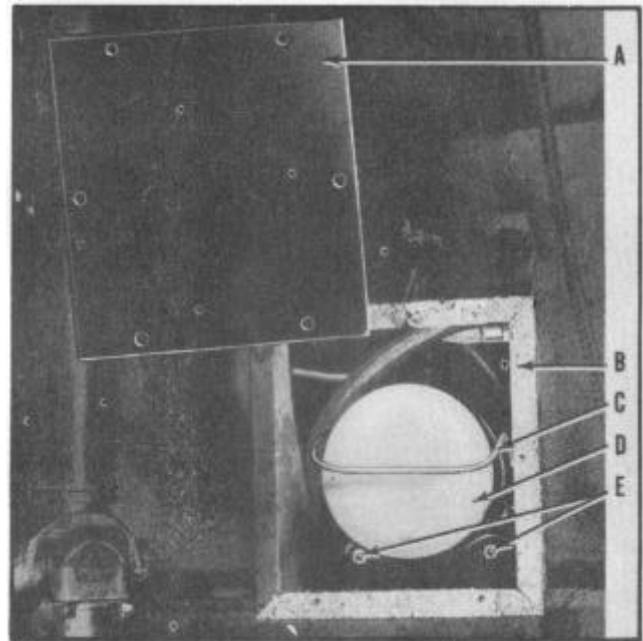

FIGURE 103
To remove hydraulic fluid, raise the car on a hoist and remove cover plate (A) from the bottom of the well containing the Motor and Hydraulic Pump Assembly. See Figure 103. Remove the reservoir bail (C) and the reservoir (D), and empty the contents into a clean dust-free container
1. After all fluid has been completely removed from the hydraulic system and while the car is still raised on the hoist, remove the two nuts (E), Figure 103, and lockwashers from the lower motor and pump assembly support.